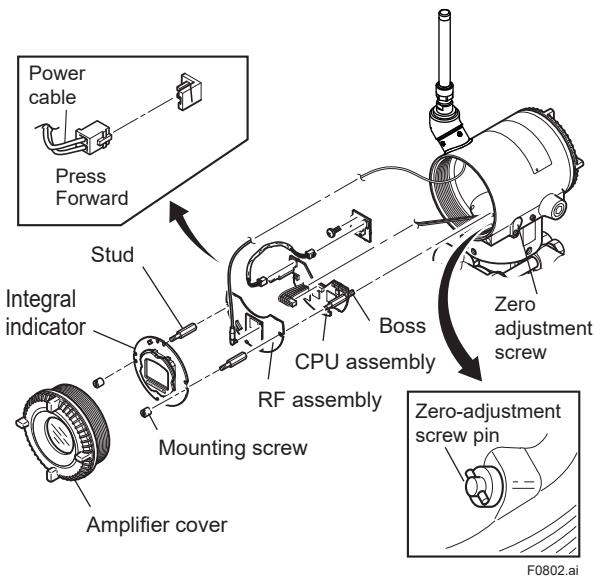

Figure 8.2 Removing and Attaching Integral indicator, RF assembly and CPU Assembly
This subsection describes the procedure for replacing an integral indicator. (See figure 8.2)
This subsection describes how to replace the RF assembly (see Figure 8.2).
This subsection describes how to replace the CPU assembly (see Figure 8.2).
- 2) Turn the zero-adjustment screw to the position as shown in Figure 8.2.
- 3) Disconnect the power cable (cable with brown connector at the end). When doing this, lightly press the side of the CPU assembly connector and pull the cable connector to disengage (see the upper left of Figure 8.2).